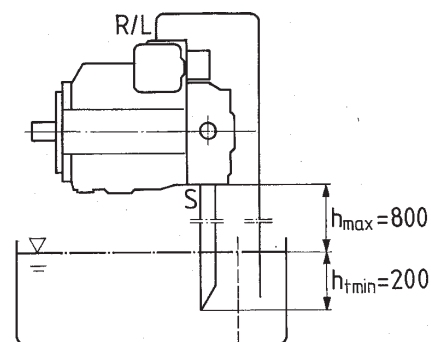

Fig. 4
b) When the minimum fluid level lies under the pump upper edge then: drain port and possibly port »S« has to be piped, see fig. 4. Conditions are as per point 1.2. Fill pump casing before commissioning.
a) For installation above a tank see fig. 4.